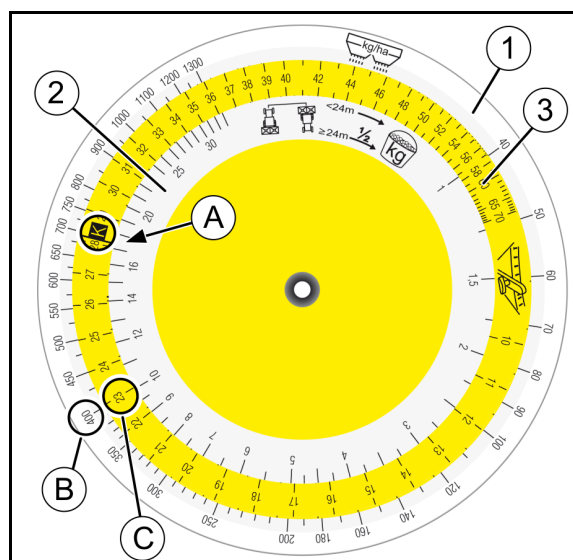

Fig. 59
7. Take the calculating disc rule for the calibration kit. On the scale (Fig. 59/2) for collected quantity lb [kg], look for value 17.5 (A) and align with position **K** of coloured scale (Fig. 59/3).
8. Look up the required spread rate (400 kg/ha) (B) on the scale for the spread rate (Fig. 59/1) and read off the slider position **23** (C).